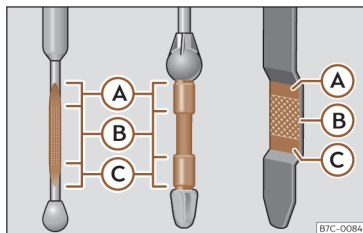

Fig. 215 Engine oil dipstick.
Key to the >>> Fig. 215:
- Then pull it out again and check the oil level >>> Fig. 215. Top up with engine oil if necessary.
- When the oil level reaches at least zone >>> Fig. 215 Ⓑ, carefully screw on the engine oil filler cap >>> ⓐ.